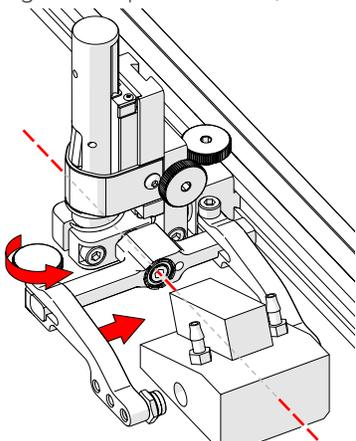

Fig. 127 - Adjust outer arm
3. Loosen the probe holder arm adjustment knob (Fig. 127) and slide the probe holder arm along the yoke pinching the wedge in place.